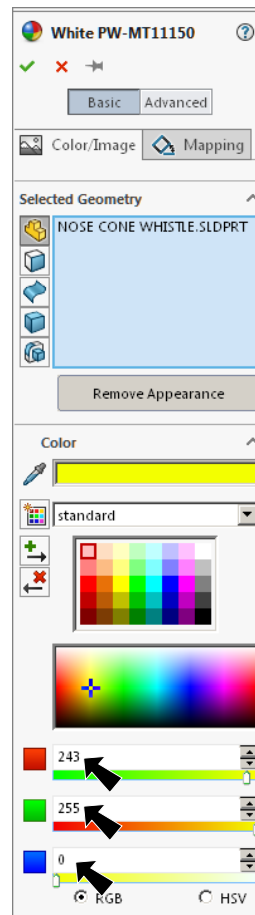

Fig. 84
Step 4. In the Appearances Property Manager, under **Color**, Fig. 84